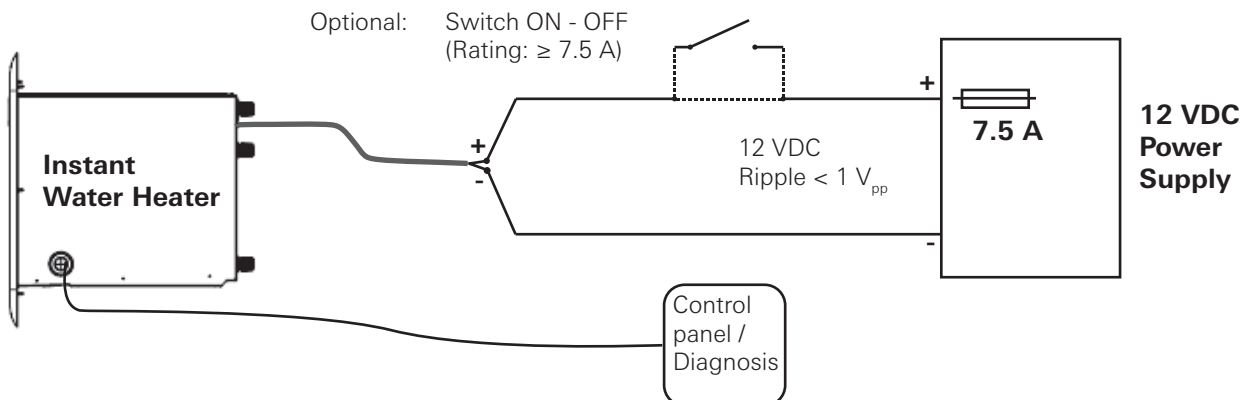

Fig. 19
- Connect the electrical lines with the proper polarity to the 12 VDC power supply. Refer to "Electrical connection for all models" on Page 22. Install a 7.5 A fuse exclusively dedicated to the appliance (see Fig. 19).